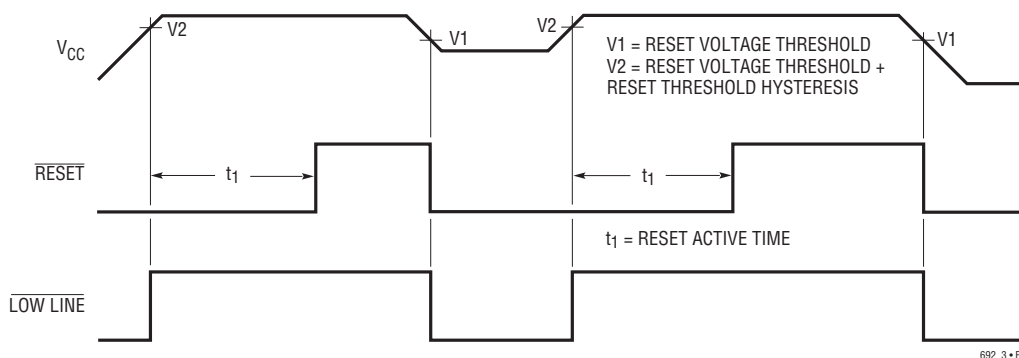

Figure 1. Reset Active Time
**$\overline{LOW}$  LINE:** Logic Output from Comparator C1.  $\overline{LOW}$  LINE indicates a low line condition at the  $V_{CC}$  input. When  $V_{CC}$  falls below the reset voltage threshold (4.40V typically),  $\overline{LOW}$  LINE goes low. As soon as  $V_{CC}$  rises above the reset voltage threshold,  $\overline{LOW}$  LINE returns high (see Figure 1).  $\overline{LOW}$  LINE goes low when  $V_{CC}$  drops below  $V_{BATT}$  (see Table 1).
The LTC692/LTC693 use a bandgap voltage reference and a precision voltage comparator C1 to monitor the 5V supply input on  $V_{CC}$  (see Block Diagram). When  $V_{CC}$  falls below the reset voltage threshold, the  $\overline{\text{RESET}}$  output is forced to active low state. The reset voltage threshold accounts for a 10% variation on  $V_{CC}$ , so the  $\overline{\text{RESET}}$  output becomes active low when  $V_{CC}$  falls below 4.50V (4.40V typical). On power-up, the  $\overline{\text{RESET}}$  signal is held active low for a minimum of 140ms after reset voltage threshold is reached to allow the power supply and microprocessor to stabilize. The reset active time is adjustable on the LTC693. On power down, the  $\overline{\text{RESET}}$  signal remains active low even with  $V_{CC}$  as low as 1V. This capability helps hold the microprocessor in stable shutdown condition. Figure 1 shows the timing diagram of the  $\overline{\text{RESET}}$  signal.